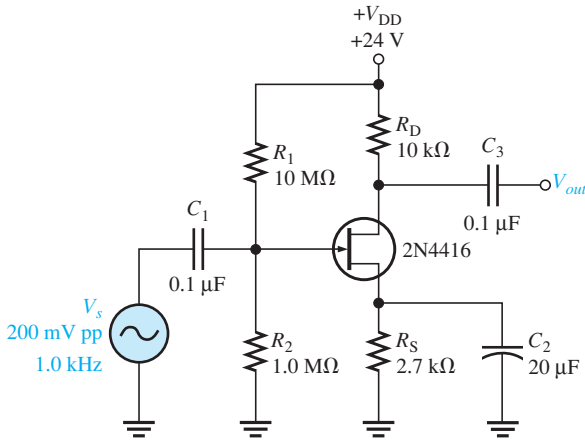

FIGURE 4-83
24. (a) Assume $V_{GS} = -2.0$ V for the circuit in Figure 4-83. Determine V_G , V_S , and V_D .
25. Determine the gain of the amplifier in Figure 4-83 when a 27 kΩ load is connected from the output to ground ($g_m = 3000$ μ mhos).
26. For the circuit in Figure 4-83, what effect would an open R_1 have on